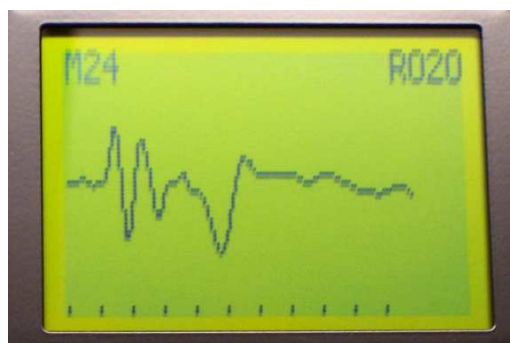

Figure 9. Sample BAER data from normal canine subject
6. If *while trying to save data* you see a display with “M32” posted at upper left (M24 for older Baercoms like Figure 9), then *no more writable BAER trace memory pages are available.*